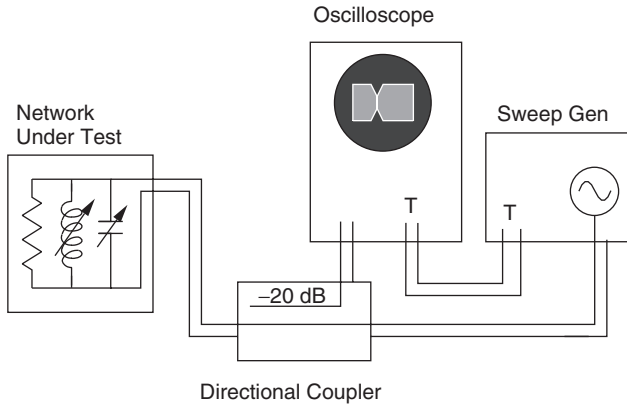

Figure 16.14. Filter-tuning setup with directional coupler.
1. *Tune passive networks for return loss.* Figure 16.14 shows the right way to tune filters when we care only about amplitude response (e.g., wideband RF stage filters for image rejection) or when the desired signal looks like noise and not pulses.